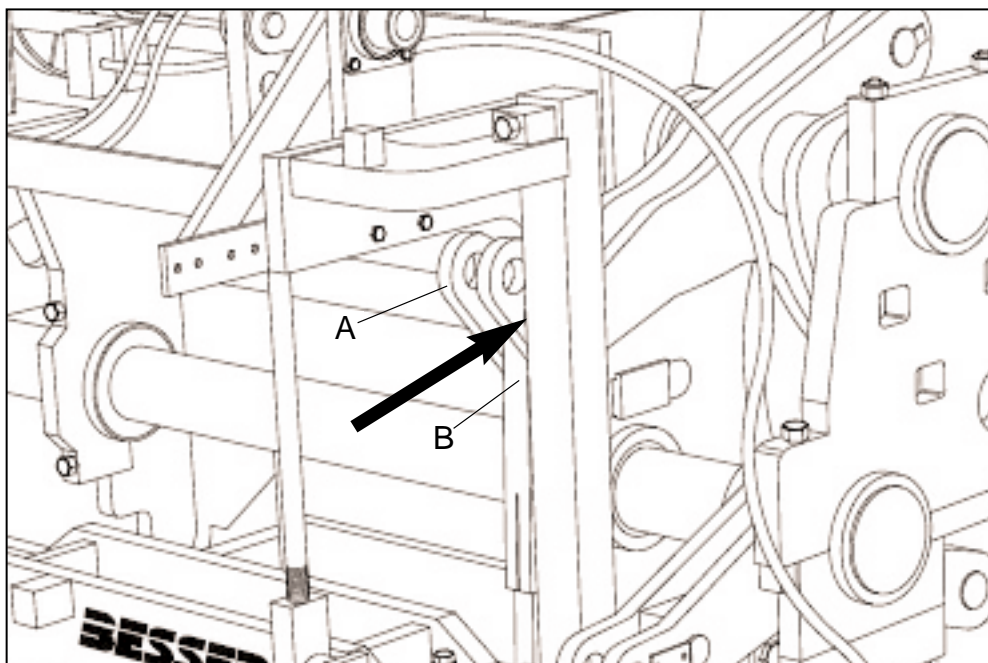

Figure 4.18 STRIPPER HEAD SHAFT AND LINKS.
- b. Stripper head shaft (A)- position pins in inside holes (short stroke) (see figure 4.18).
- c. Stripper head links (B)- position pins in top holes. Adjust links to obtain approximately **7 3/4" [197 mm]** (see figure 4.18) between link ends.